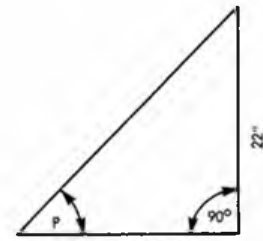

fig 6
Now we have to do the same thing to find the angle of propeller blade at the end nearest the centre. The pitch of the propeller is the same all along its length. As the diameter decreases, the length of the base of our triangle in figure 3 will become *shorter* and therefore the pitch angle (*P*) becomes *steeper*. Let's say the length of the propeller blades in our example are 5 inches. This means that the diameter where the blades start, is 4 inches. The triangle at the bottom of the blade will look like the one in figure 6. Again divide the pitch (22) by the circumference of the 'inner cylinder' ($\text{Pi} \times 4 = 12.566$) $22/12.566 = 1.75$